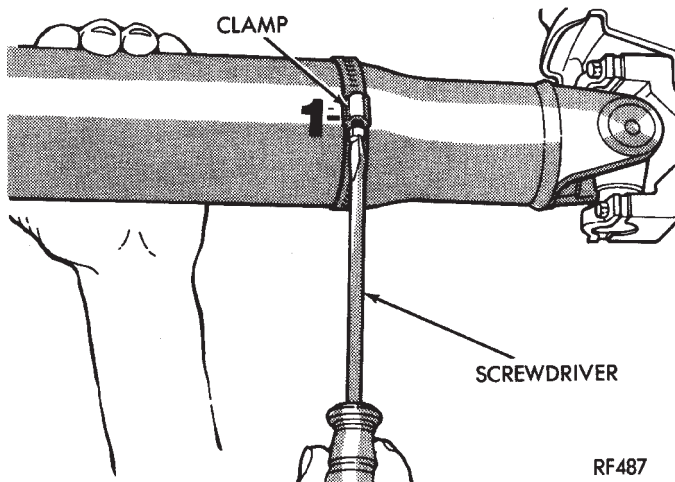

Fig. 6 Clamp Screw At Position 1
(3) Inspect the propeller shaft for missing balance weights, broken welds, and bent areas. **If the propeller shaft is bent, it must be replaced.**
(4) Inspect the universal joints to ensure that they are not worn, are properly installed, and are correctly aligned with the shaft.
(5) Check the universal joint clamp screws torque.
(6) Remove the wheels and tires. Install the wheel lug nuts to retain the brake drums or rotors.
(7) Mark and number the shaft six inches from the yoke end at four positions 90° apart.
(8) Run and accelerate the vehicle until vibration occurs. Note the intensity and speed the vibration occurred. Stop the engine.
(9) Install a screw clamp at position 1 (Fig. 6).